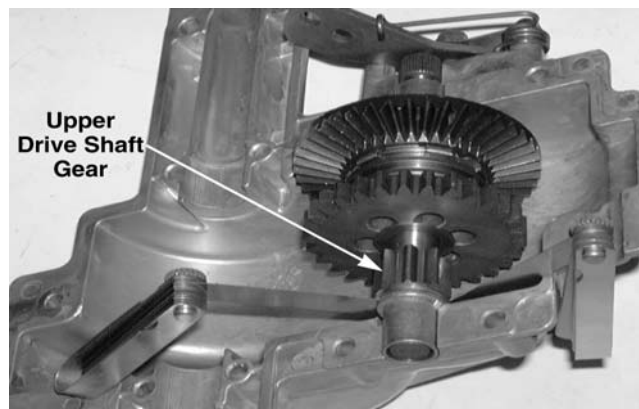

Figure 9-36
- Place two feeler gauges between the gear on the upper drive shaft and the flat washer shim. See Figure 9-36.